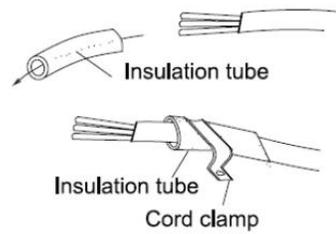

Fig. 4.39
After passing the connection cord and power cord through the insulation tube, fasten it with the cord clamp. (Fig. 4.39)
(1)	The high-voltage and low-voltage lines should pass through the rubber rings at different electric box covers.
(2)	The high-voltage and low-voltage lines should be fixed separately and securely, with internal big clamps for the former and small clamps for the latter.
(3)	Tighten the indoor/outdoor connection cord and power cord respectively on the terminal boards with screws. Faulty connection may cause a fire.
(4)	Connect the indoor unit power supply and communication cable properly based on the corresponding marks as shown in Fig. 4.39.
(5)	Ground both the indoor and outdoor units by attaching a ground wire.
(6)	Unit shall be grounded in compliance with the applicable local, state and national codes.
(1)	The high voltage power cable and the wire of the fresh air valve (not standard on this model) are high-voltage, while the communication cable and connection wire of the wired controller are low-voltage. They should run separately to avoid electromagnetic interference.
(2)	Do not bundle the connection wire of the wired controller and the communication cord together, or arrange them in parallel, otherwise improper operation would occur.
(3)	If the indoor unit communication cable (to the outdoor unit) and power supply are improperly wired, the air conditioner may be damaged.